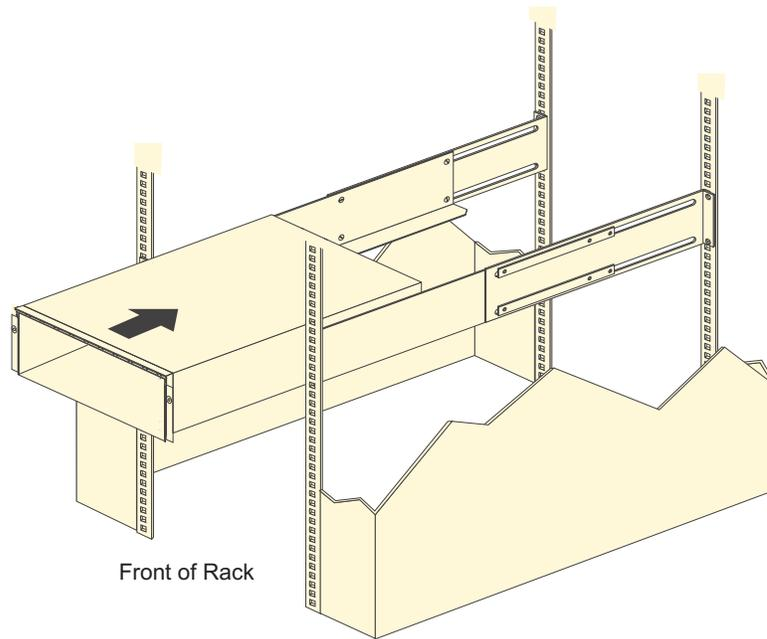

Figure 19. Installing the DS4700
- b. With help from another person, place the back of the storage subsystem on the support rails, and then slide the unit into the rack as shown in Figure 19 on page 37.